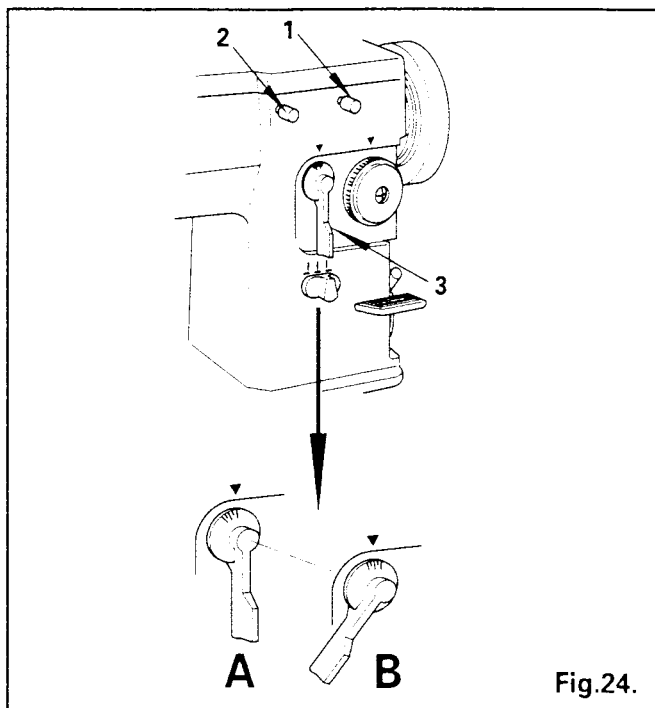

Fig.24.
To obtain minimum to maximum width (20U51/53; 9mm, 20U62/63; 12mm) zigzag stitches, first loosen thumb screw (2), Fig.24, to permit the stitch width regulator (3), Fig.24 to return to its zero position (see A, Fig.24) and retighten thumb screw (2).
Then loosen thumb screw (1), Fig.24, turn stitch width regulator (3) clockwise as far as it will go and while holding the regulator (3) in this position (see B, Fig.24), retighten thumb screw (1).